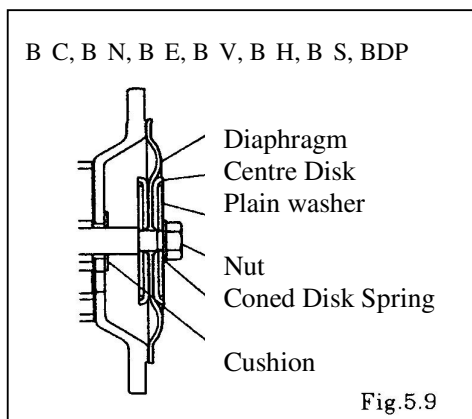

Fig.5.9
- Draw the centre disk to one side (exclude B□H, B□S type Fig. 5.9).
- Draw the centre disk to the opposite side, then turn the diaphragm over (exclude B□H, B□S type cf. Fig.5.9).